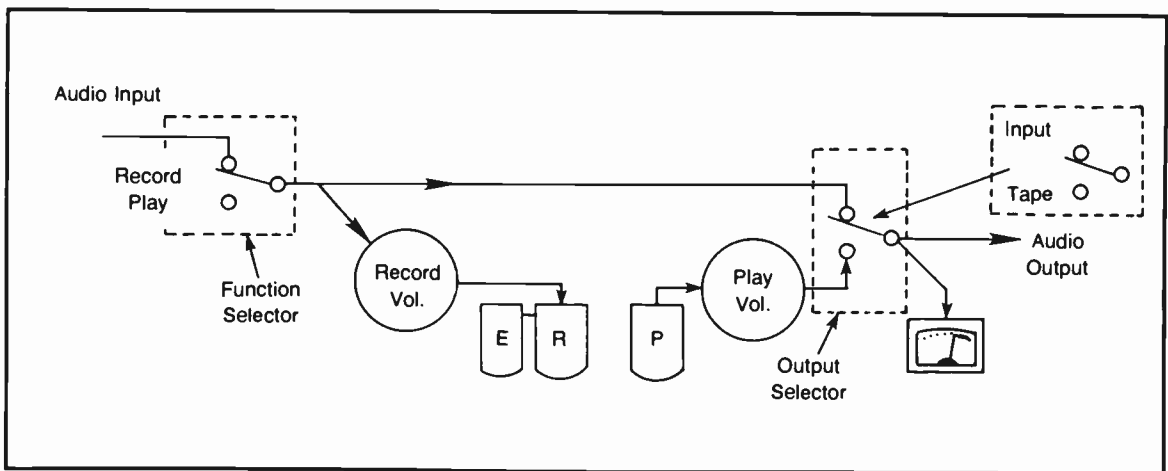

Fig. 2-8. Tape machine audio path. Studio-quality tape machines have two separate function switches: one for the input and one for the output.
sette tape players. The two controls used on most broadcast tape machines allow the operator much more flexibility of operation. (See Fig. 2-8.)
- *Output selector*—switches the tape machine's meter and output amplifier between the audio coming from the playback head and the audio being fed to the input of the tape machine. Figure 2-8 shows in simple form the relationship of these two controls.
The operation of cassette machines is very much like that of reel-to-reel machines (see Fig. 2-8). In most cases the tape moves from the supply reel on the left to the take-up reel on the right, passing the erase head, record and playback heads, and the capstan/pinch roller in the same sequence as with the open reel machines.